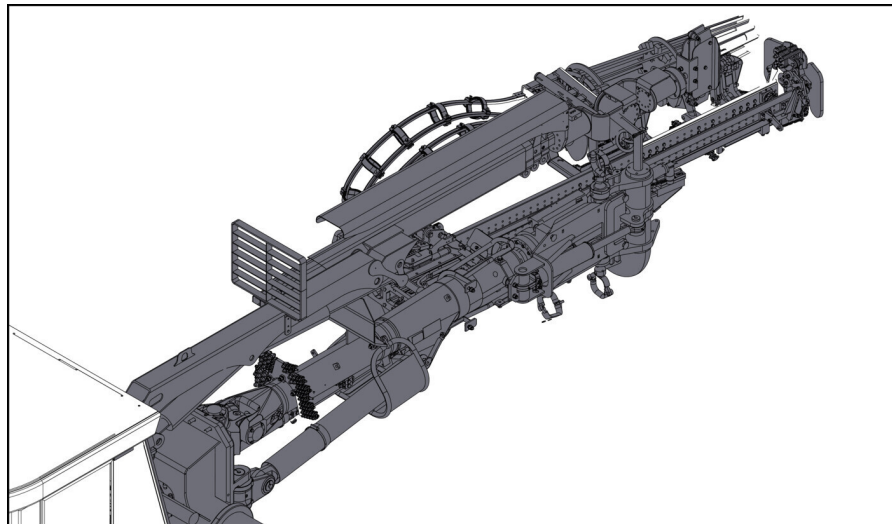

Figure 5
12. Place the drill boom in center position and as low as possible (Figure 5).